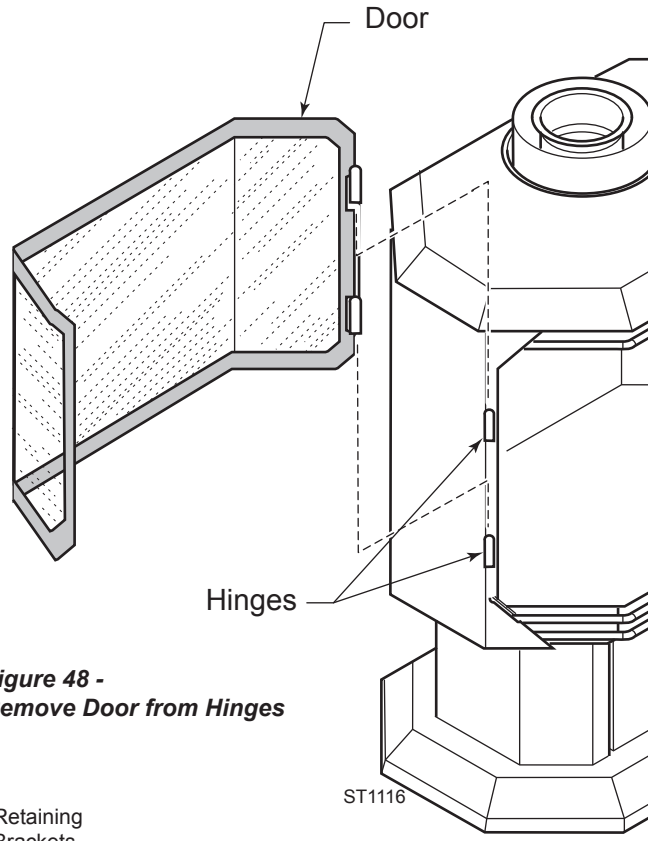

Figure 48 - Remove Door from Hinges
1. Put on gloves. Remove door from hinges by lifting the door up. *Figure 48*
9. Slide door back down the hinges. *Figure 48*